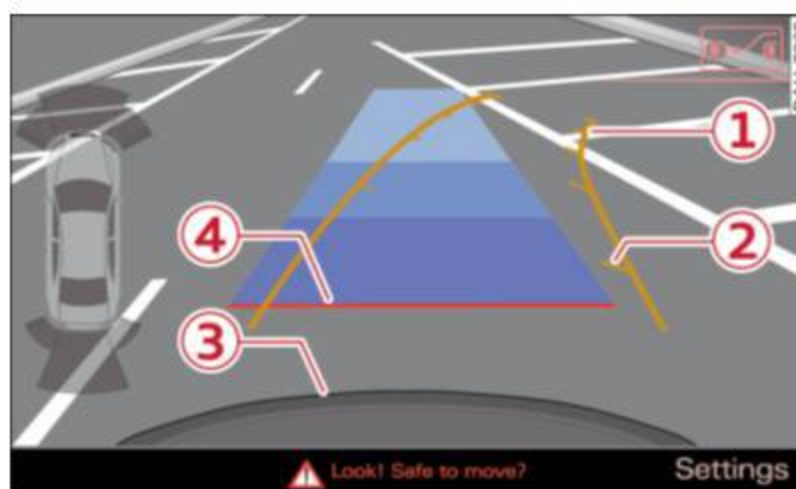

Fig. 112 MMI Display: Aiming at a parking spot
- ▶ Turn the steering wheel until the orange orientation lines ① appear in the parking spot ⇒ fig. 112. Use the markings ② to help you estimate the distance from an obstacle. Each marking corresponds to 3 ft (1 m). The blue area represents an extension of the vehicle's outline by approximately 16 ft (5 m) to the rear.
- ▶ While driving in reverse gear, adjust the steering wheel angle to fit the parking space with the aid of the orange orientation lines ⇒ . ③ marks the rear bumper. You should stop driving in reverse as soon as and no